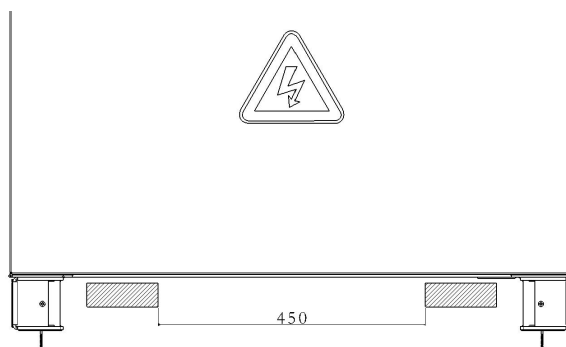

Figure 4-3 Indication of the distance between the fork arms
- 3) When performing forklift transfer operations, it is necessary to ensure that the two sides of the inserted fork arms are at equal distances from the center of gravity of the product. The distance between the two fork arms (excluding the width of the fork arms) should be $\geq 450\text{mm}$, as shown in Figure4-3